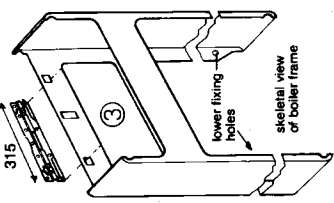

Fig. 14
Refer to figures 14 - 18
Measure carefully from the actual face of the outside wall to the centre of the flue bend. (Dimension X on Figs. 14 & 15).
Locate the small maintenance clip on to the flue elbow fig. 14 and assemble onto the flue outlet on the top of the boiler. Twist the flue bend to the outlet direction required, and tighten the maintenance clip to secure the flue bend in place. Carefully level across to check that the hole through the wall is at the same level as the flue bend.
- 5.5.16** Referring to fig. 14 fit the large maintenance clips into position and secure the clip screws.
- 5.5.27** Referring to fig. 14 assemble a small maintenance clip on the outlet of the boiler flue bend. Push the inner flue tube into clip and tighten clip screws.
- 5.5.29** Referring to fig. 14 fit the large maintenance clip into position and tighten clip screws.
- 5.5.39** Referring to fig. 14 fit the large maintenance clip into position and secure clip screws.